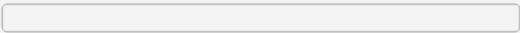

Figure 3.2: Back view of the TY960 Analogue Multimeter, showing the battery compartment cover and product label.
2. Locate the battery compartment on the back of the unit (refer to Figure 3.2).